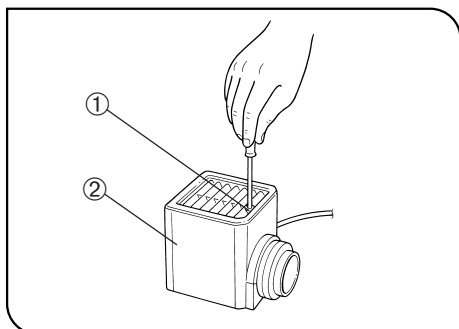

Fig. 40
**1 Installing the Halogen Bulb** (Figs. 40 - 42)
5. Slide the lamp housing cover onto the housing base from the above. Tighten the clamping screw ① while pressing downward on the cover. (Fig. 40)